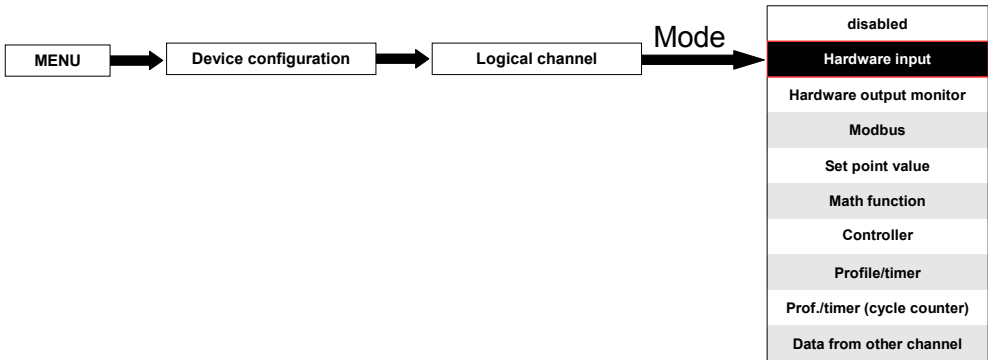

Fig. 7.34. Input channels menu – 2 different kinds of Displaying parameters
- **Precision** - this parameter is for **Format=numeric**, which specifies the precision to be displayed on the output value. The user can set: 0 (no decimal point), 0.0, 0.00 (Fig. 7.34), 0.000, 0.0000 (to 4 decimal places). The default is '0',
- **Graph low** - minimum range value for graphs, bars, needle dials and percentage bars (see Fig. 7.34),
- **Graph high** - maximum range value for graphs, bars, needle dials and percentage bars (see Fig. 7.34),